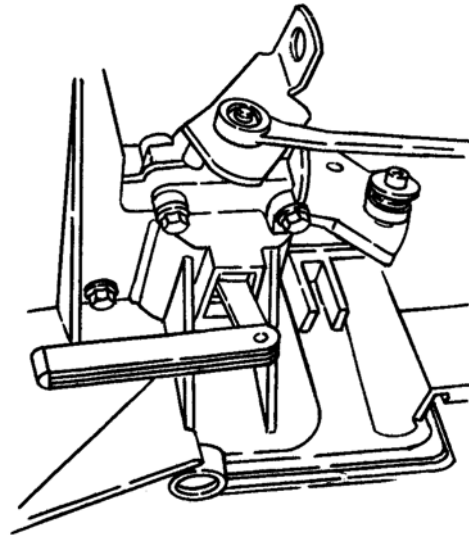

Figure 6-51. Brake Adjustment Nut With Feeler Gauge
- b. If the clearance is not correct make the necessary change with adjustment nut. See Figure 6-51.